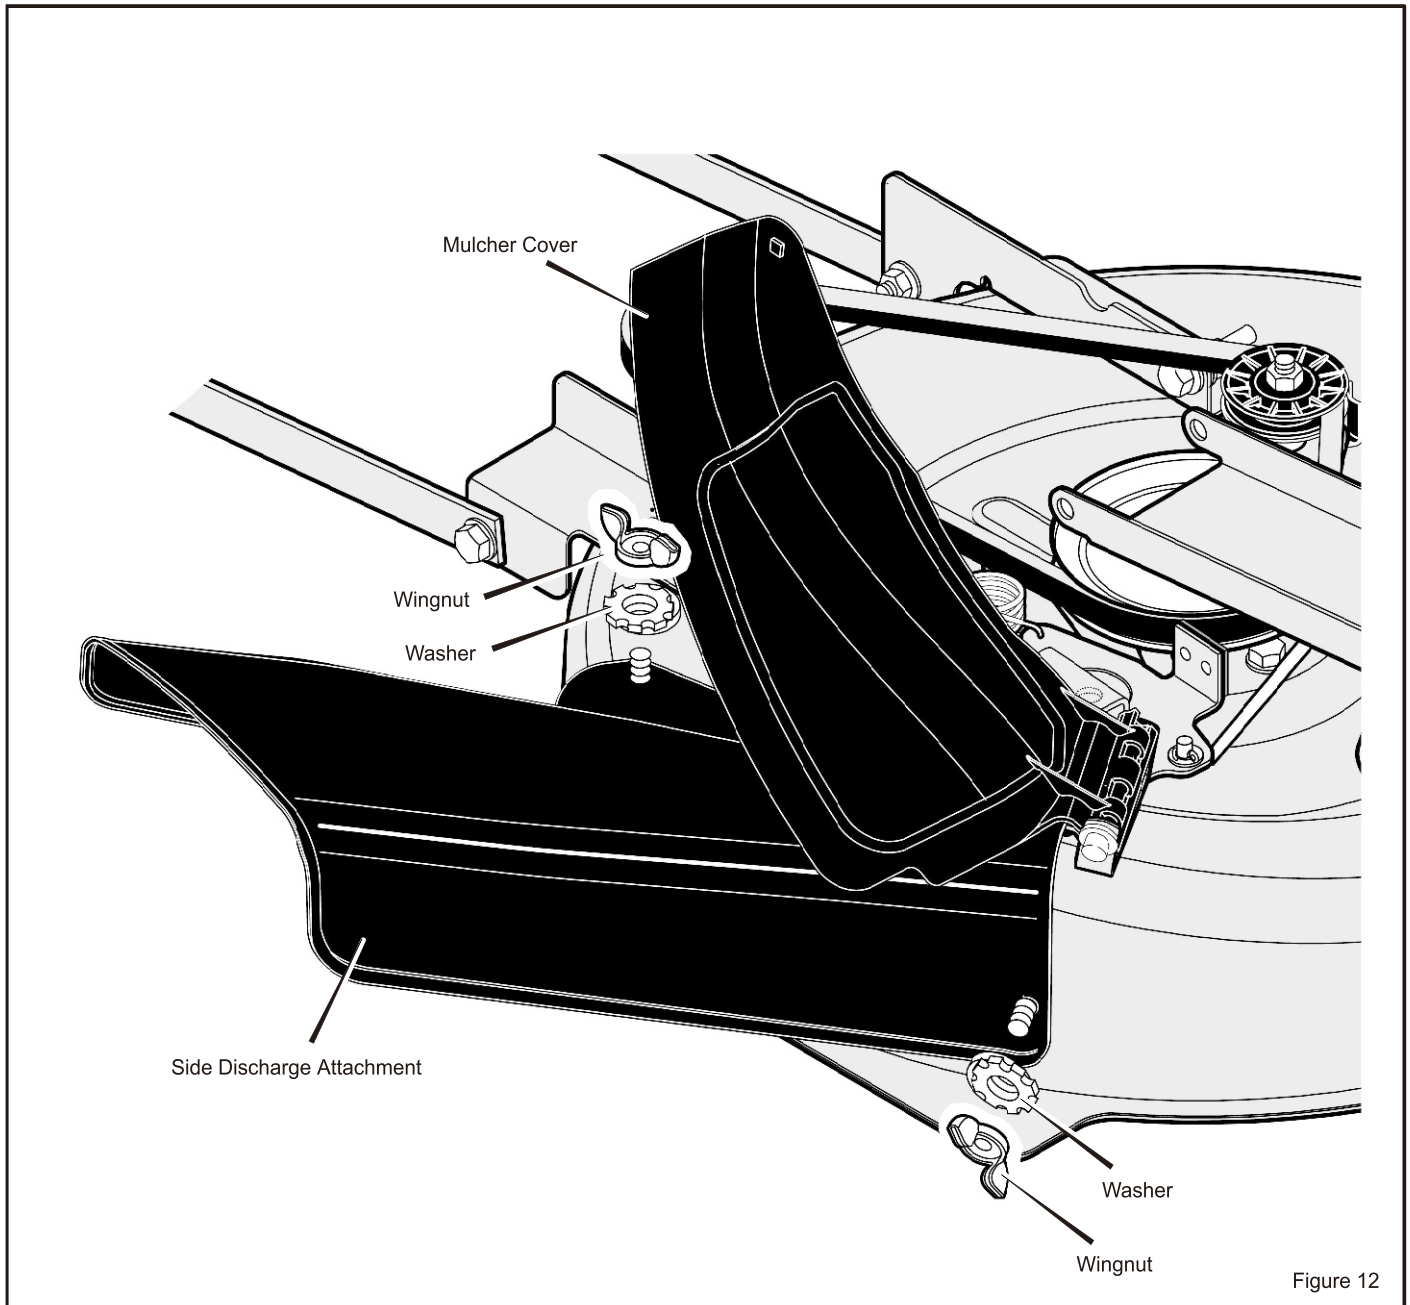

Figure 12
1. Remove the fasteners that secure the **mulcher cover** (see Figure 12).